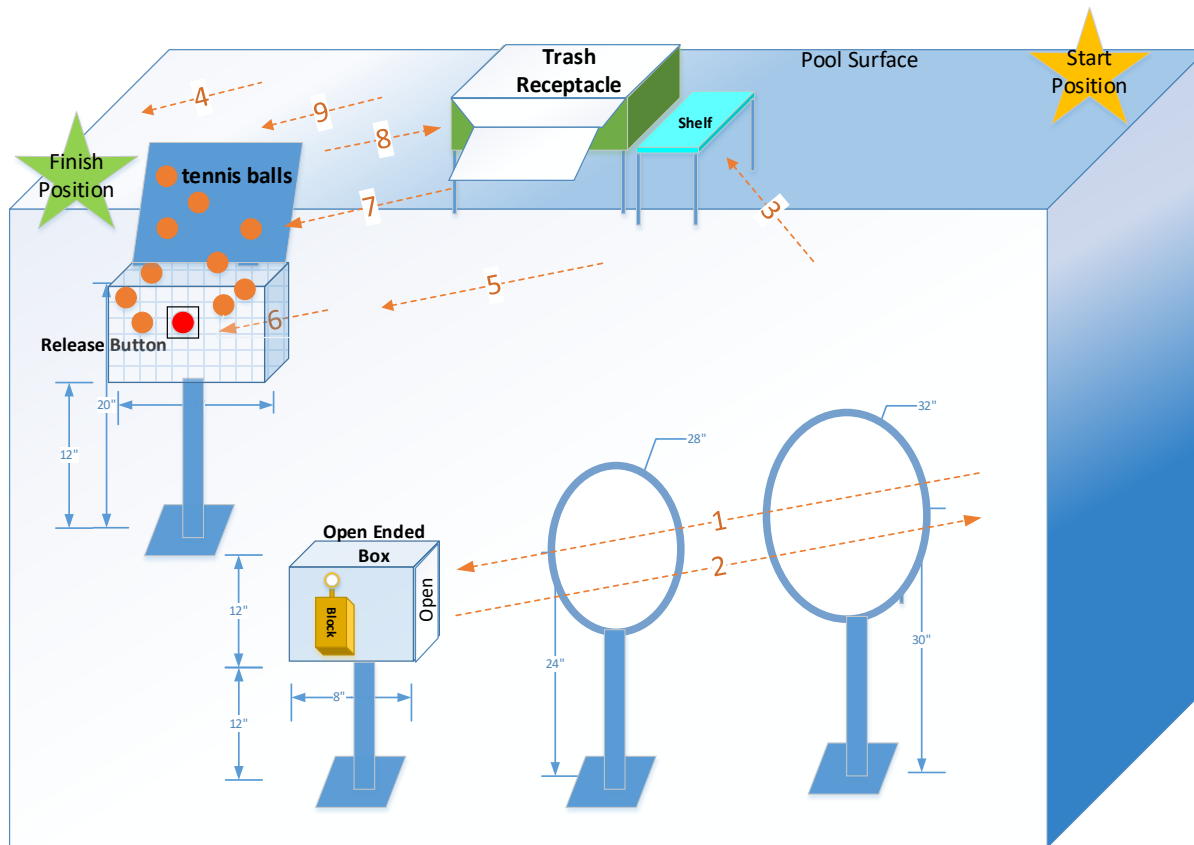
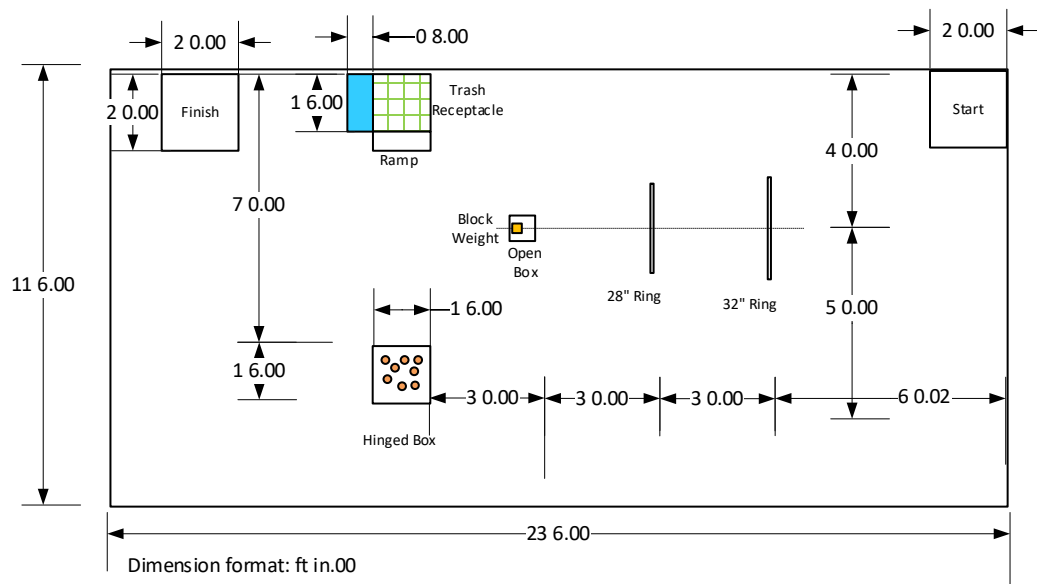

Figure 1 Game Field - Basic Layout and Task Sequence (Not to Scale)
Figure 2 Pool gameplay layout section (top view)
The Game Field is an area in the pool that is 23 ft. 6 in. x 11 ft. 6 in. The water depth is three to four feet, depending on the location in the pool. Figure 1 shows an overall view of the field elements and Figure 2 gives the relative positions of the elements and their dimensions. These elements will be placed in each Game Field area:
- 3.1. **Tunnel Rings** – two metal or plastic rings will be used to simulate an underwater tunnel that the robot will traverse. As shown in Figure 2, the distance between the rings is three feet.
- 3.5. **Trash Receptacle Shelf** – The trash receptacle shelf will be attached to the side of the trash receptacle box, as shown in Figure 2. The shelf will measure 8" x 18" with a thickness of ¾". The shelf will be located approximately 6 inches below the surface of the water and is intended to only hold the trash cube when placed from the robot.
See the step numbers below that correspond to those shown in Figure 1.